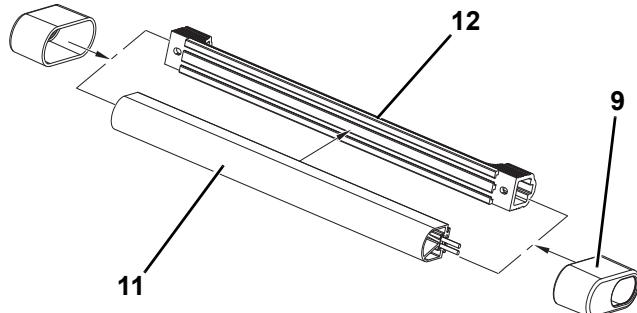

Figure 4-55.
2. Align and attach Platform Sensor Mount (**12**) onto the SkyGuard Switch (**11**) as shown in *Figure 4-55*.
3. Attach Platform Sensor Covers (**9**) to SkyGuard switch assembly at both ends. See *Figure 4-55*.